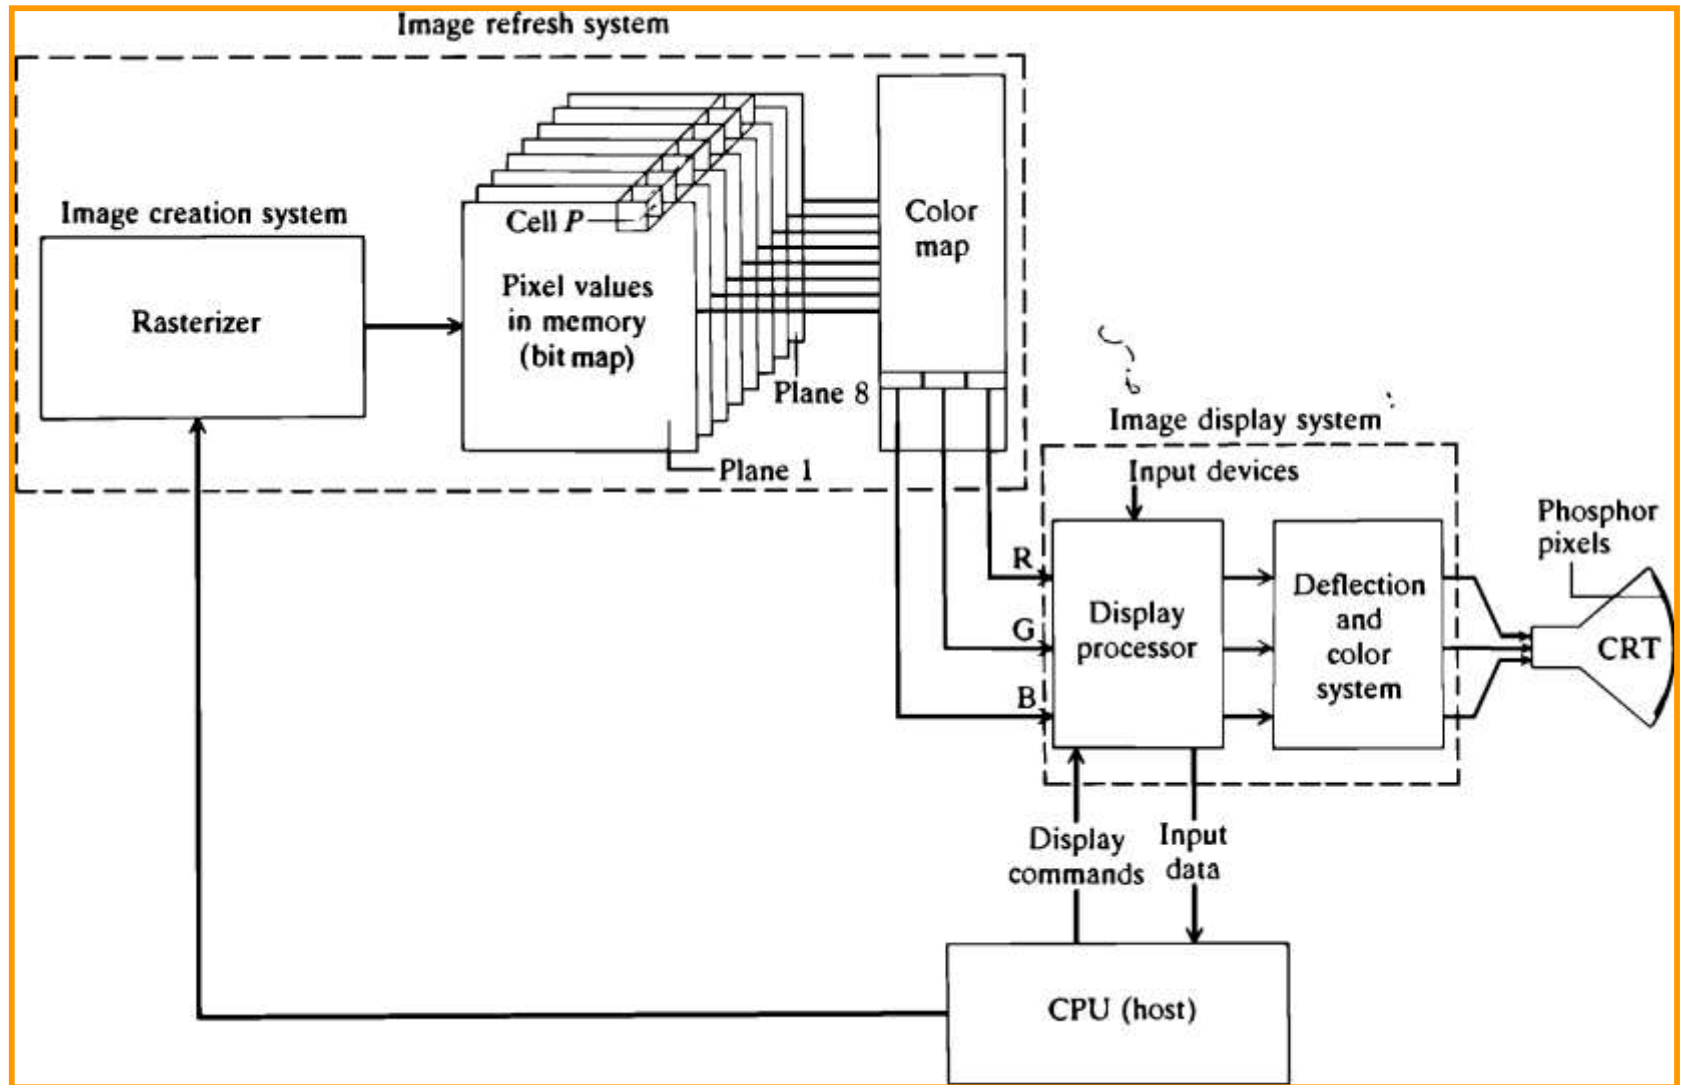

Figure 4: Color raster display with eight planes.
➤ Figure 4 shows a schematic of a typical color raster display.
- In raster displays, images (shaded areas or graphics entities) are displayed by converting geometric information into pixel values which are then converted into electron beam deflection through the *display processor* and the *deflection system* shown in Figure 4.
- The values of the pixels of a display screen that result from the scan-conversion process are stored in an area or memory called *bit map* refresh buffer, as shown in Figure 4.